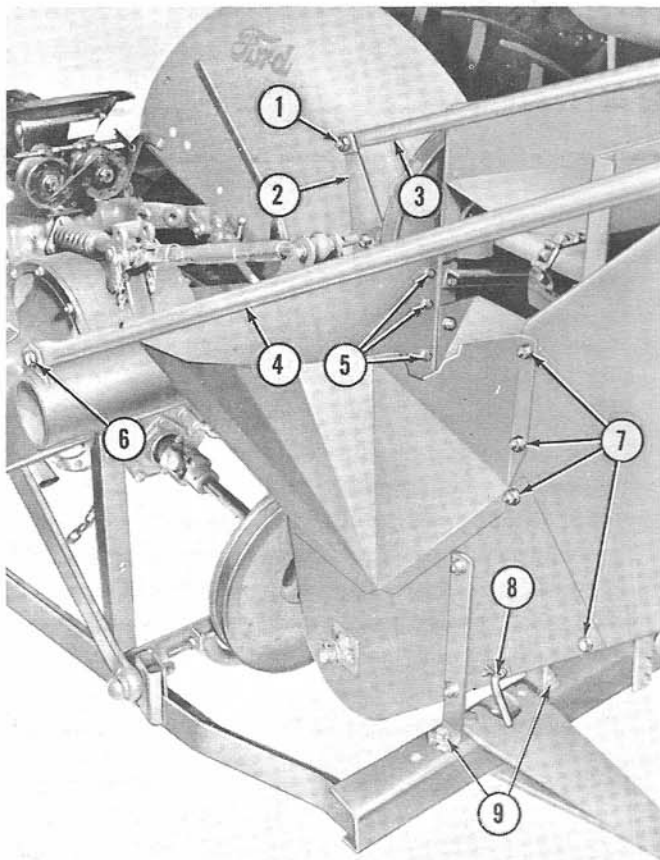
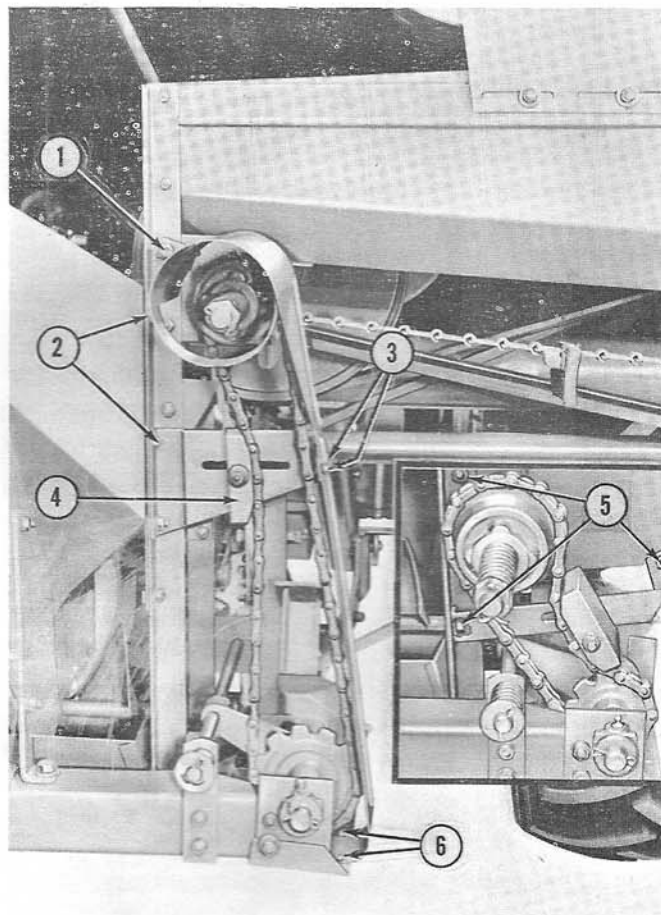

Figure 13
Figure 14
2. Attach the right and left support braces (3) and (4), Figure 13, to the wagon elevator with the 1/2" x 10-1/2" hex head bolt, lock washer and nut provided.
3. On corn harvesters, attach the elevator brace bracket (2), Figure 13, to the main frame tube with 1/2" x 1" bolts, lock washers and nuts as shown. This extension is not required on corn pickers.
4. Raise the elevator into position on the drawbar frame, making sure that the elevator driven shaft is properly coupled with the drive shaft. Attach the right brace (3), Figure 13, to the bracket (HARVESTERS), or to the main frame tube (PICKERS) with the 1/2" x 1-1/4" hex head bolt, lock washer and nut (1). Attach the left brace to the bracket on the frame tube with a 1/2" x 1-1/4" hex head bolt, lock washer and nut (6).
5. Attach the bottom support braces to the drawbar frame with two 1/2" x 1-1/2" hex head bolts, lock washers and nuts (9), Figure 13.
6. Attach the elevator hopper front panel to the husk unit or conveyor with three 5/16" x 3/4" hex head bolts, lock washers and nuts (5), Figure 13. Attach the hopper right rear panel with two 1/4" x 5/8" round head screws, lock washers and nuts (2), Figure 14.
1. On corn harvesters, install the chain (4), Figure 14, as shown. Adjust the chain slide block until the chain can be deflected approximately 3/4". Attach the drive chain shield with the bolt (1), Figure 14, and four 1/4" x 1/2" stove bolts, lock washers and nuts (3) and (6).
2. On corn pickers, install the wagon elevator drive chain as shown in the insert, Figure 14. Adjust the chain slide block until a 3/4" deflection is obtained. Attach the drive chain shield over the chain, using the three bolts (5), shown in the insert.
2. Remove the four bolts (7), Figure 13, on each side of the elevator, then, with the elevator properly supported, remove the bolts (1) and (6), holding the support braces to the main frame tube. Carefully lower the elevator on the hinge pin (8).